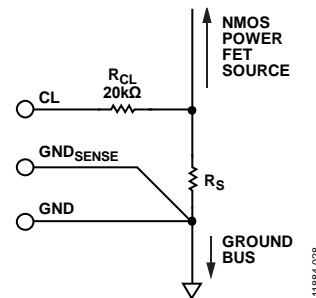

Figure 24. Recommended R_S Kelvin Ground Connection
- Use a Kelvin connection shown in Figure 24 and Figure 25 from the following: